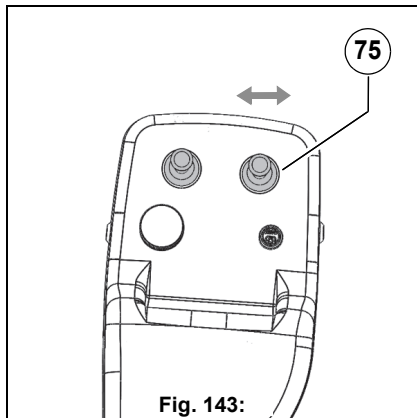

Fig. 143:
- Press the tip switch **Fig. 143-C** and simultaneously move the joystick **Fig. 143-75** to the right – the right-hand rotating brush tilts downwards
- Press the tip switch **Fig. 143-C** and simultaneously move the joystick **Fig. 143-75** to the left – the right-hand rotating brush moves back to the starting position